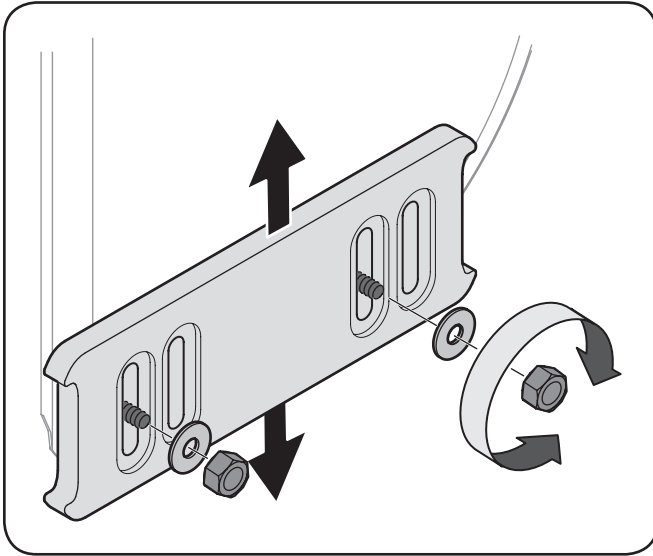

Figure 3-23
1. Loosen the four hex nuts (two on each side) and carriage bolts. Move skid shoes to desired position. See Figure 3-23.
NOTE: The skid shoes on your snow thrower may look slightly different (and have different hardware) than the ones shown in Figure 3-23.